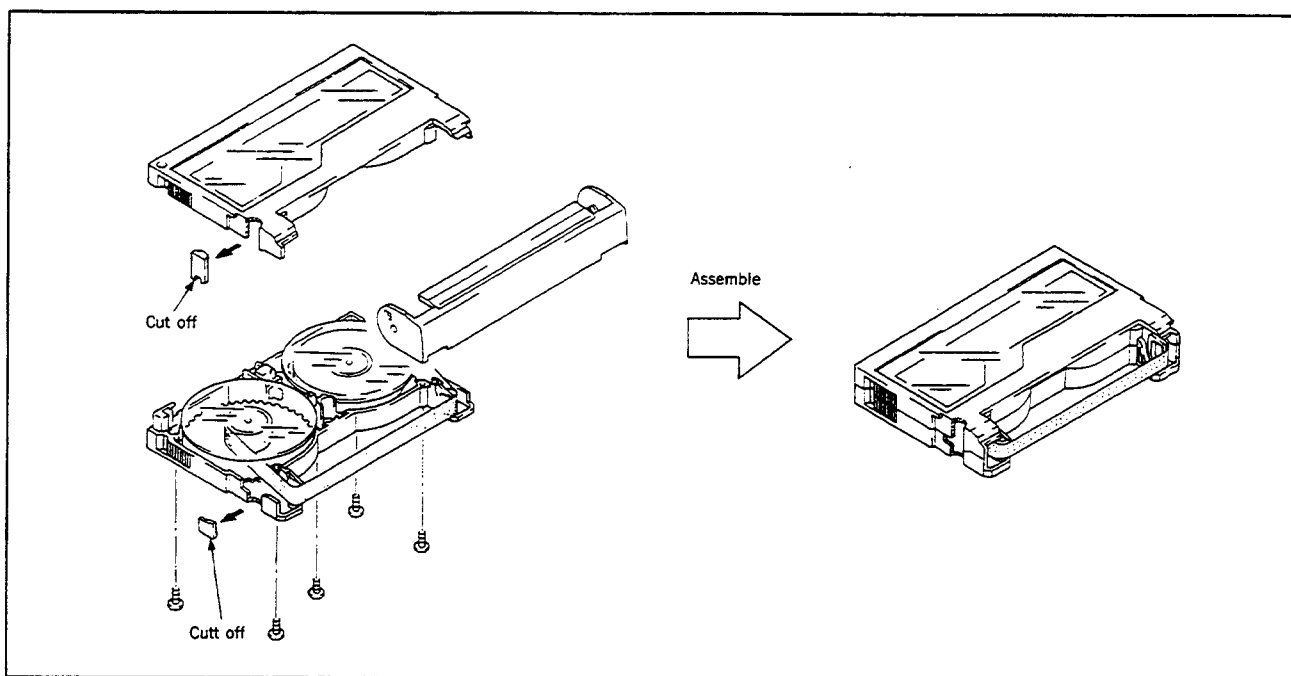

Fig. 34-B
- 1) Clean the tape running surface (tape guides, drum, capstan shaft, pinch roller) (Fig. 34-A).